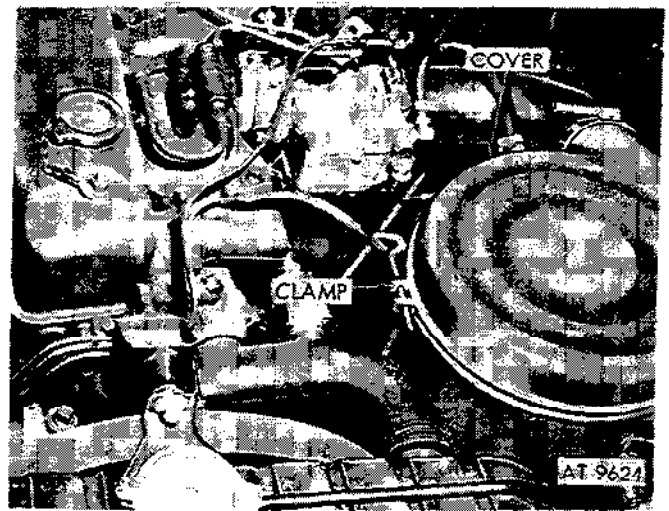

Figure 2-83. Remove air cleaner cover (Holley).
(1) Loosen clamp and remove air cleaner cover (fig. 2-83 or 2-84).